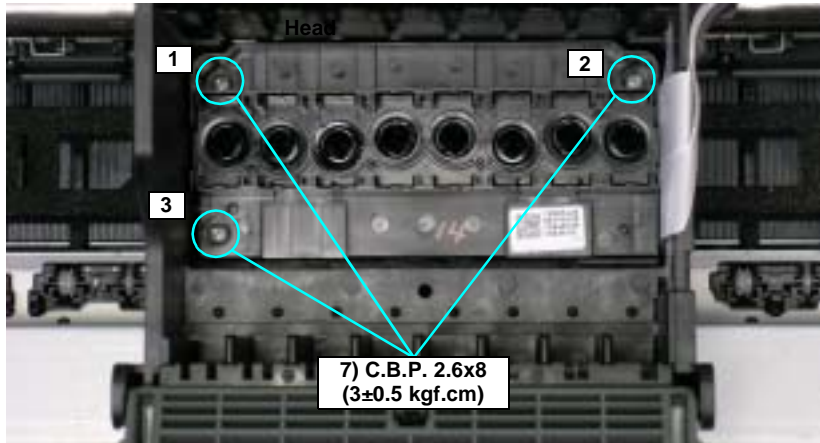

Figure 4-33. Removing the Print Head
- The screws must be tightened in the order shown in Figure 4-33, while the Print Head is held down in the direction of the arrow.